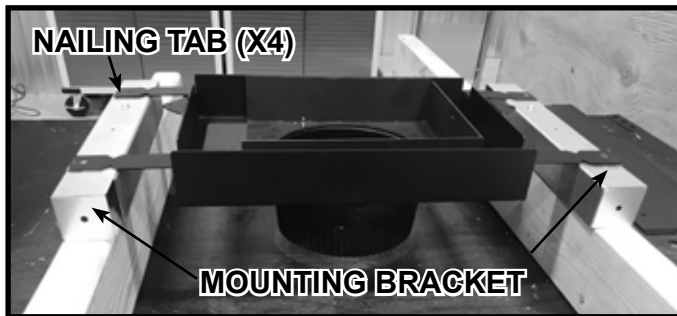
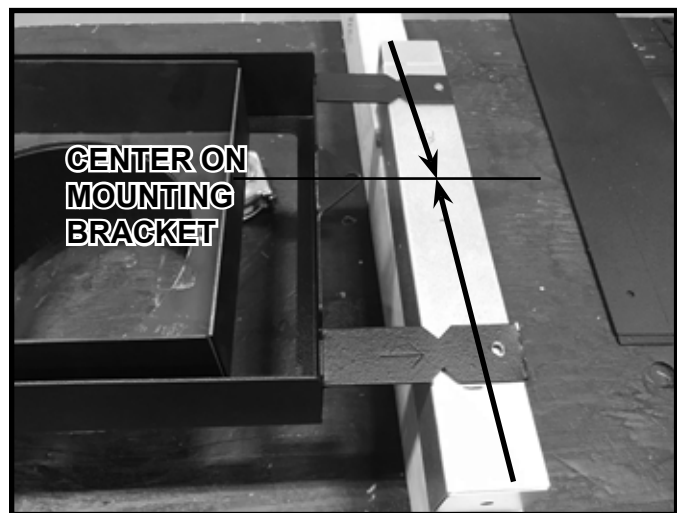

Figure 8.12 Mounting Bracket Assembly Fastened to Nailing Tabs
Figure 8.13 Center Discharge Assembly on Mounting Bracket
8. On a flat surface, mount a mounting bracket assembly to the end of the nailing tabs on each side of the discharge assembly. See Figure 8.12. Make sure that the discharge assembly is centered on the mounting bracket assembly as shown in Figure 8.13. Repeat this process for both discharge assemblies.